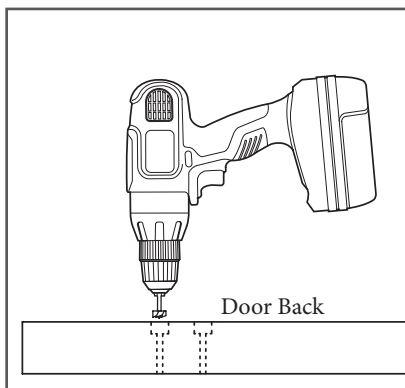

Figure 4
7. Turn the door over. Using a 7/8" Forstner bit*, drill a 7/16" deep hole into each pilot hole (Figure 4).